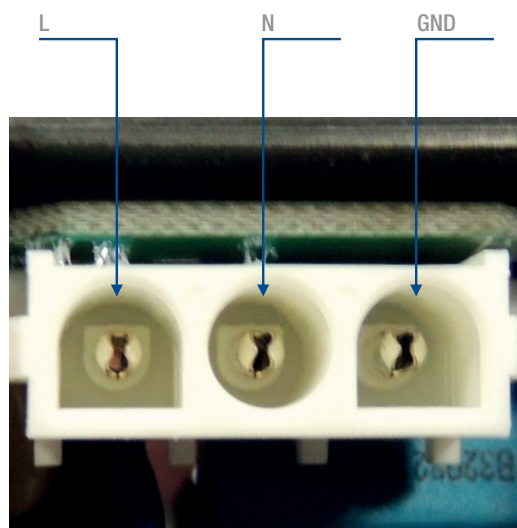

Figure 2b - fan power supply connector TYCO I-350943-0
- _____ TYCO I-350943-0 (120 V version) _____ Fig. 2b